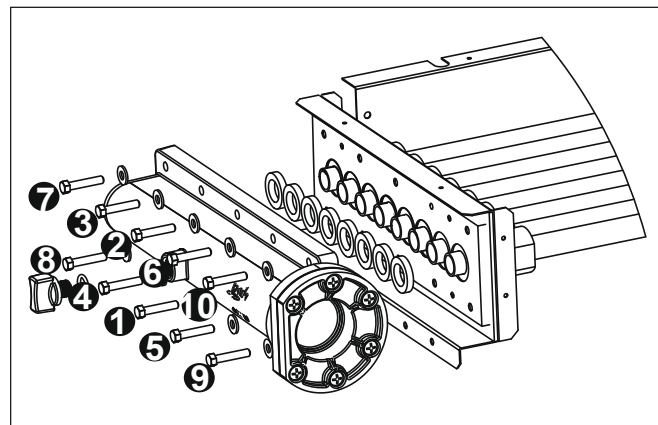

Figure 11. Header Bolt Tightening Sequence
15. Thread on the ten (10) bolts and washers and hand tighten.
16. Use a torque wrench to tighten the bolts on each header to four (4) foot-pounds. The bolts must be tightened in the sequence indicated in Figure 11.